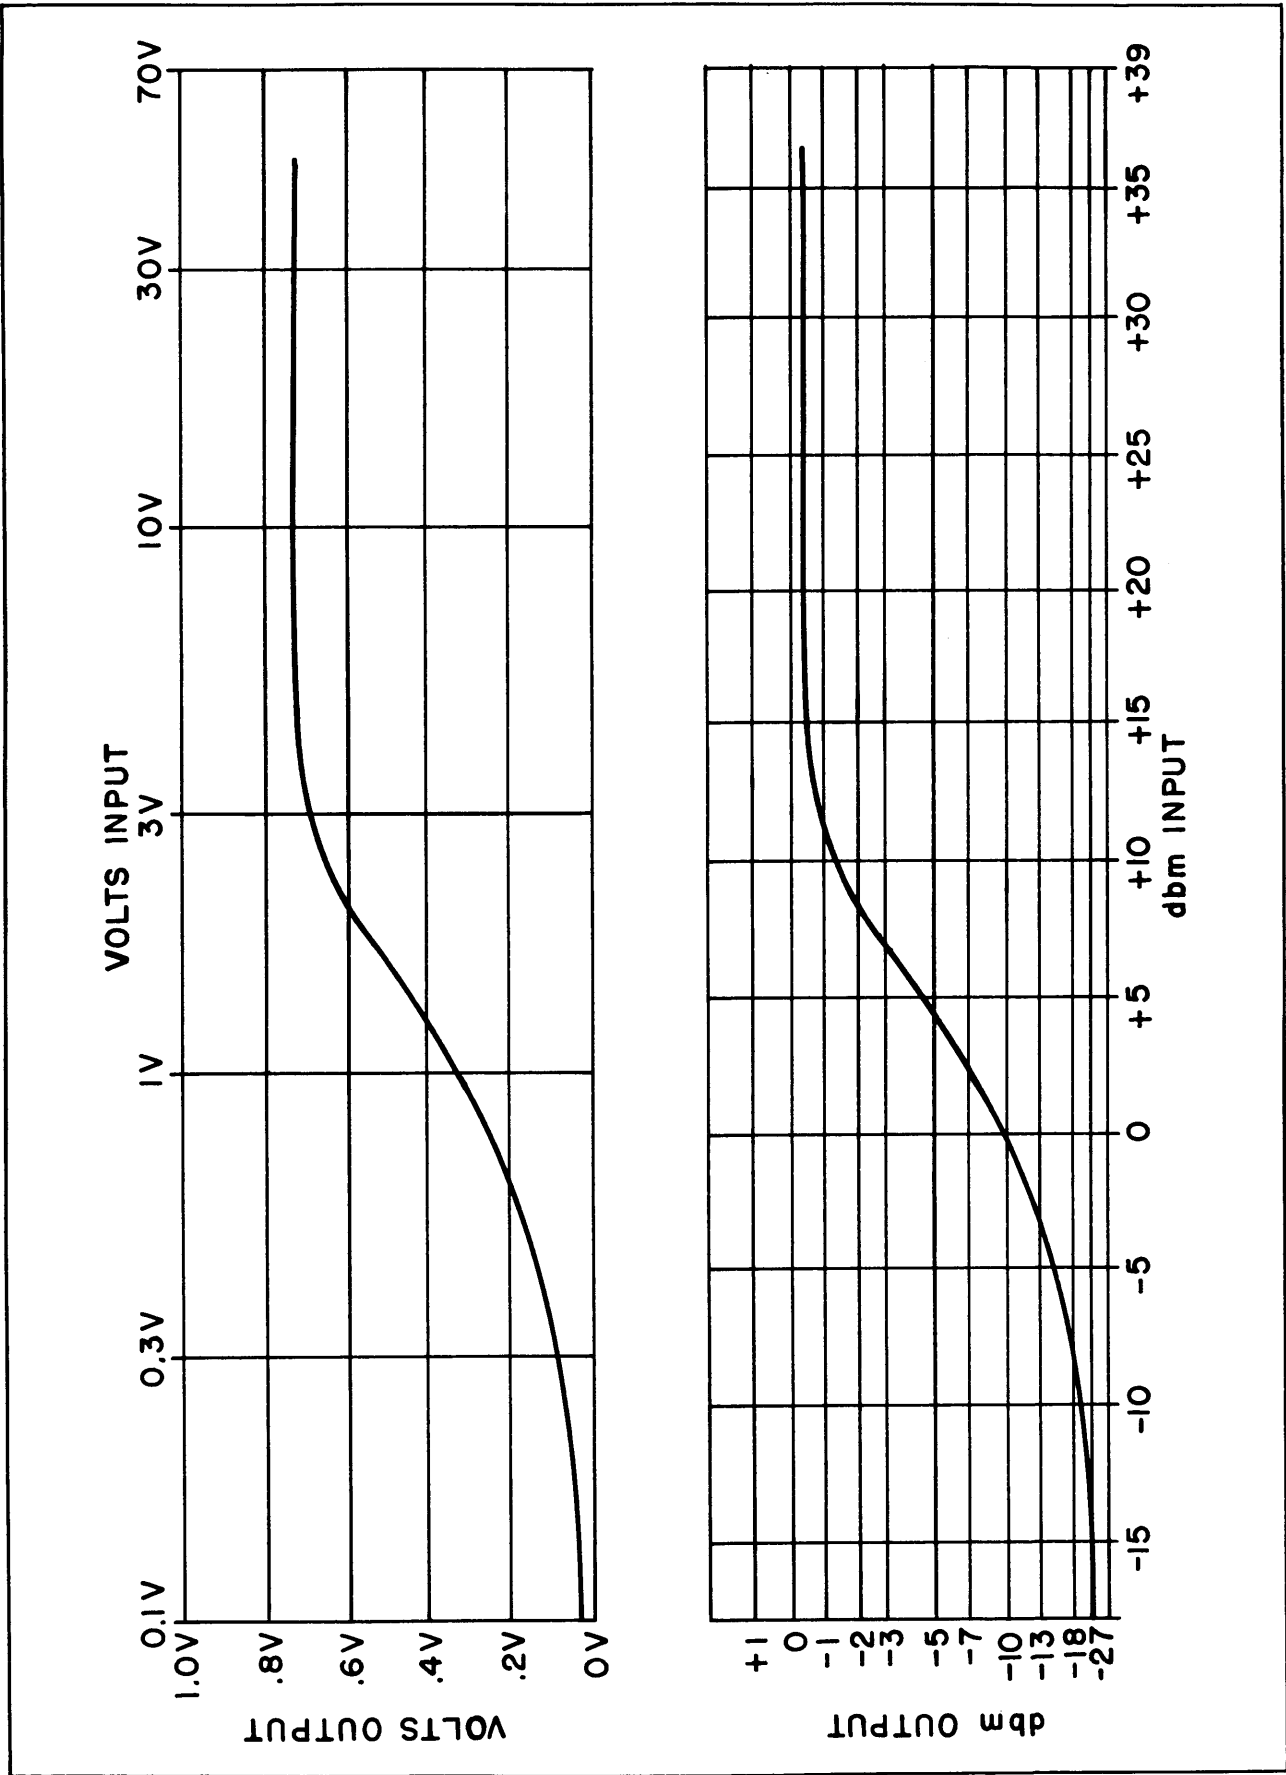

Figure 3-1 Average Sine Wave Response
2.4.1 Operation of the Models PVC is recommended only for those power levels specified on the performance graphs (Figures 3-1 and 3-2) at audio frequencies; and with 600 ohm balanced input and output impedances. If equipments not compatible with these impedance requirements are to be used, transformers or other appropriate matching devices should be employed.